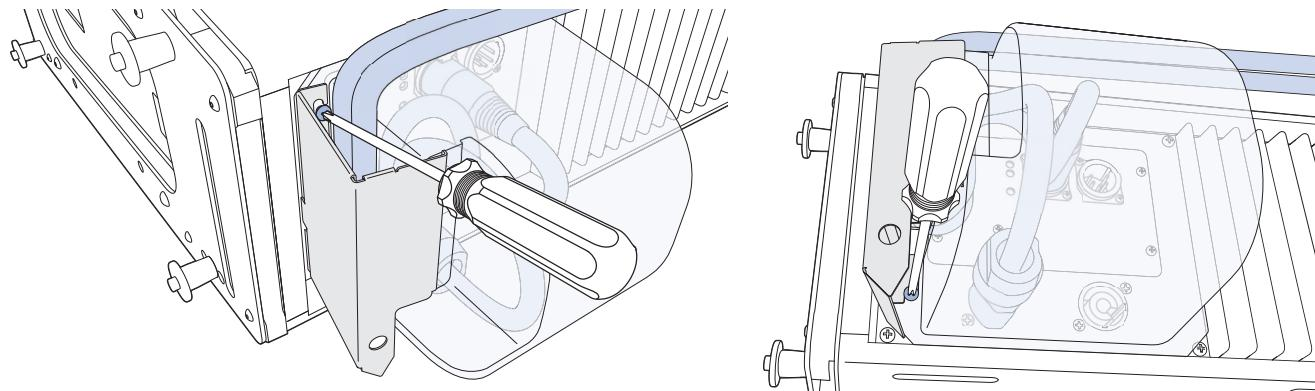

Figure 3: Tightening Screws on Left Side of Rain Hood
7. Tighten the upper and lower screws on the left side of the rain hood (Figure 3). The recommended torque value for all four screws is 10–12 in-lbs (1.1–1.4 N·m).